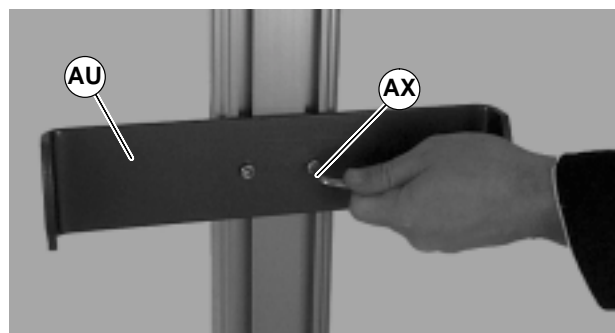

Figure 36
3. Attach brace bracket (AU of Figure 36) with M6 screws (AX). Tighten screws 80 in-lb (9 Nm).